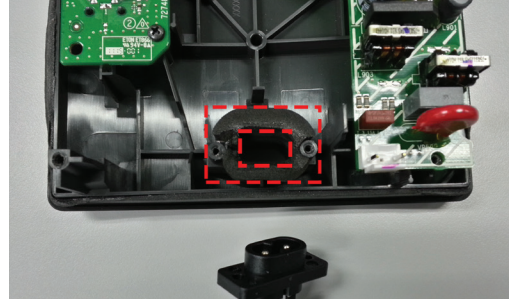

Figure 32. AC Connector, Gasket Foam
1.1 Figure 32. When the AC socket part 739368-0010 is removed, the gasket foam will deform and cause an air leak. A gasket foam replacement is needed. Gasket Foam Part 730055-0010.